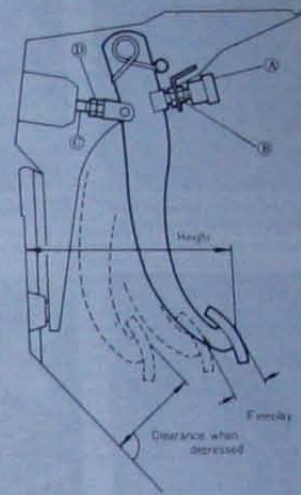

Fig. 1.9 Brake pedal adjustment details (Sec 8)
- 18 Measure the distance from the centre of the brake pedal pad upper surface to the engine compartment bulkhead (Fig. 1.9). Compare the figure obtained with the brake pedal height dimension given in the Specifications. Note the dimension does not take into account the thickness of sound deadening material or carpet affixed to the bulkhead and an allowance should be made for this.